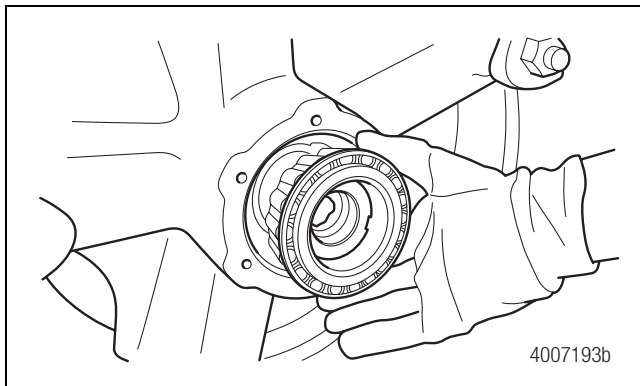

Figure 10
10. Remove the outer bearing cone. Figure 10.